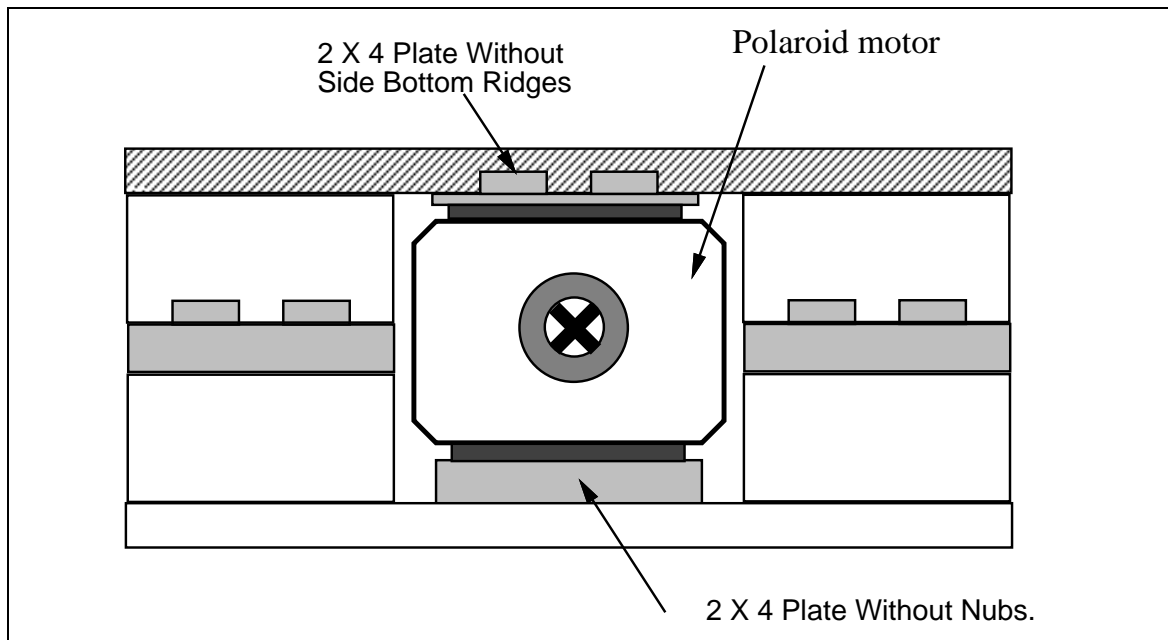

Figure 4.23: LEGO Jig for Mounting Polaroid Motor
- Make a second jig as shown in figure 4.23 out of four 2×4 bricks, two 2×4 plates, and two 6×8 plates that sandwich the motor in place.